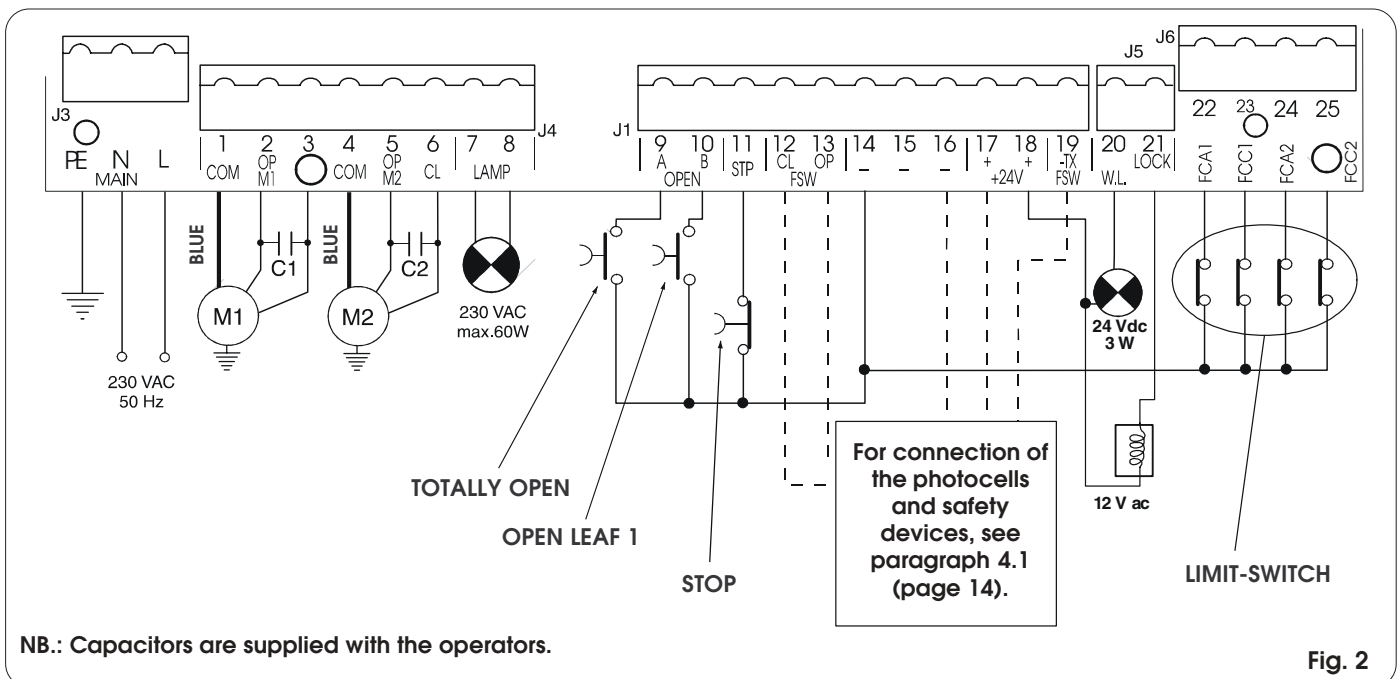

Fig. 2
- Connect the earth cable to the appropriate terminal on the J3 connector of the equipment (see fig.2).
4.2. TERMINAL BOARD J3 - POWER SUPPLY (FIG. 2)
4.3. TERMINAL BOARD J4 - MOTORS AND FLASHING LAMP (FIG. 2)
4.4. TERMINAL BOARD J1 - ACCESSORIES (FIG. 2)
4.5. TERMINAL BOARD J5 - INDICATOR-LIGHT AND ELECTRIC LOCK (FIG.2)
4.7. TERMINAL BOARD J6 - LIMIT-SWITCHES AND/OR GATECODER (FIG.2)